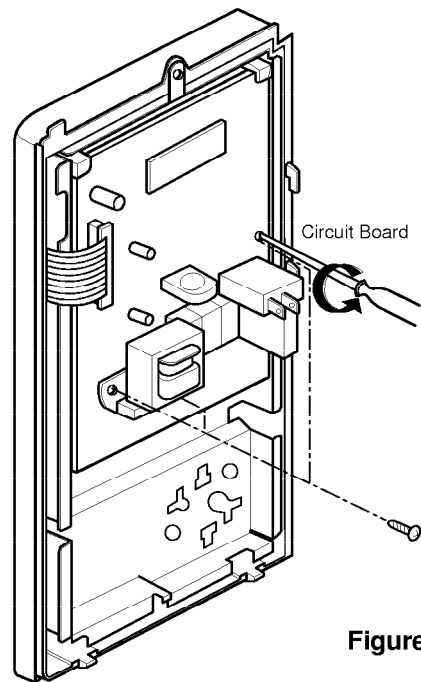

Figure 9
- (4) Remove 3 screws securing the circuit board. (Figure 9)